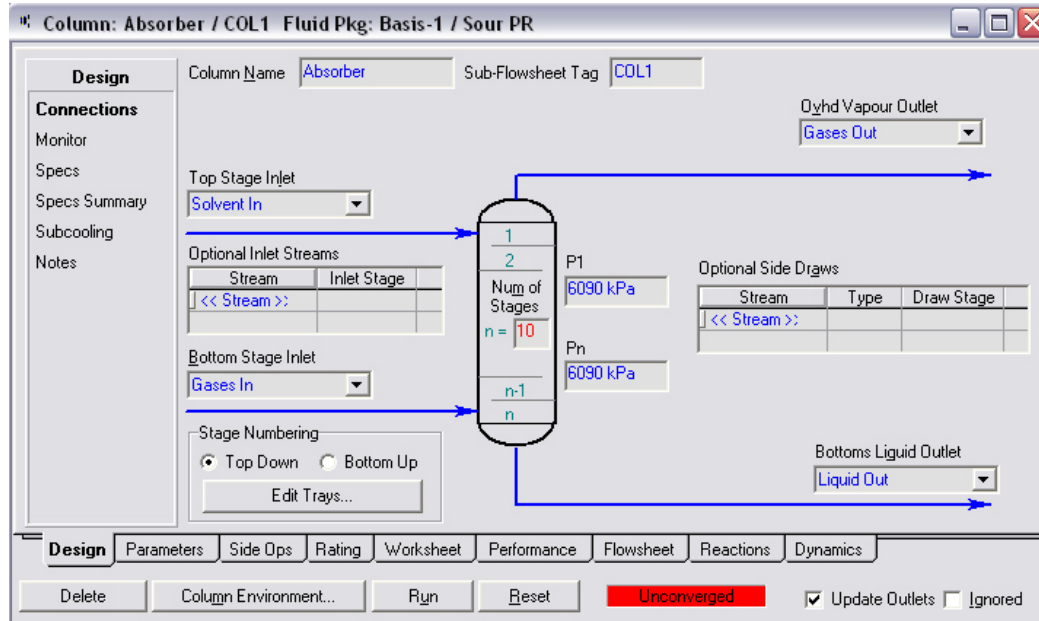

Figure 11-4
5. By clicking on the done button, HYSYS will bring up a window as shown in Figure 11-4.
When the column window as shown in Figure 11-4 pops up, click on the **Run** button located near the bottom of the window. The red **Unconverged** box should turn to green **Converged** if all the above procedure was followed. However, the results that are obtained at this point do not represent a true model for our gas absorption column because the simulation was run using trays, not packing. Now, let's see how to replace trays with packing.